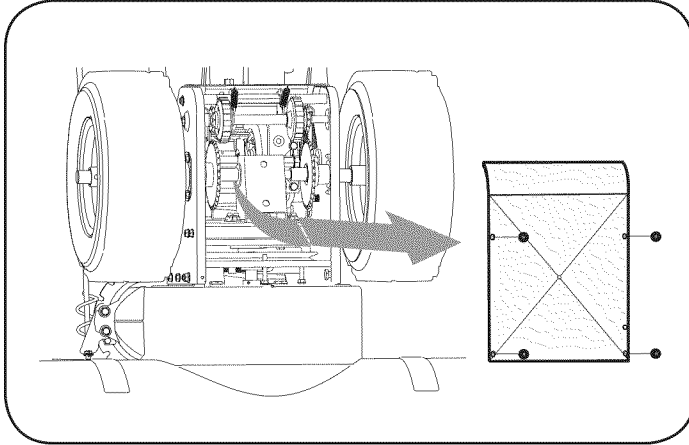

Figure 27
2. Remove the frame cover from the underside of the snow thrower by removing the self-tapping screws which secure it. Refer to Figure 27.
1. With the snow thrower tipped forward (be certain to run the fuel tank dry before tipping the unit forward), remove the frame cover underneath the snow thrower by removing the self-tapping screws. See Figure 27.